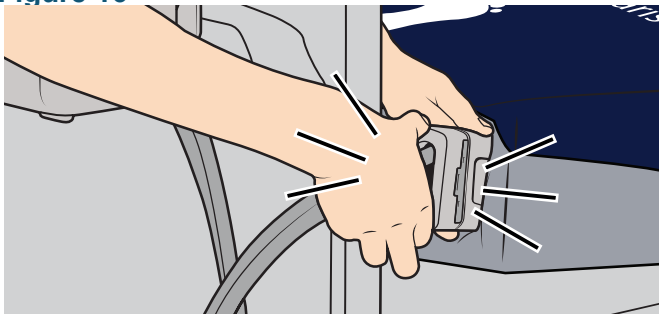

Figure 17
2. Hold the mattress connector in your left hand and press the connectors together. Make sure that the pump tube-set connector clicks into place on both sides (double-click). See Figure 17.